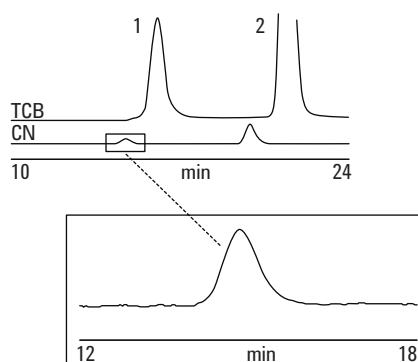

Figure 3. Excellent signal-to-noise demonstrated in the separation of polystyrene standards
The improved refractive index (RI) detector includes a new photodiode and uses fiber optic technology to maximize sensitivity while minimizing baseline drift and noise, vital for good GPC/SEC. This RI detector delivers outstanding signal-to-noise ratios, even at 220 °C (Figure 3).